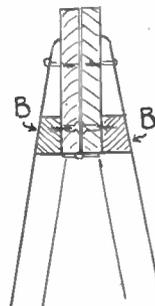

Fig. 4
At the lower part of boards (A) glue a strip of wood across, as shown by the shaded sections in Fig. 4, and plane the front edges of these level with the slope of the legs. To stiffen the stand, iron bars are screwed diagonally across between (B) and the legs (see finished drawing). These can be cut from iron of $\frac{1}{2}$ in. by 1in. Use round-headed screws for fixing.
in Fig. 4. The tips should be neatly rounded off.